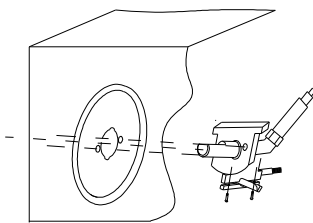

Figure 6
2. Secure side valve to side control panel by using philips head screws through the round cover plate (know bezel). (Fig.6)